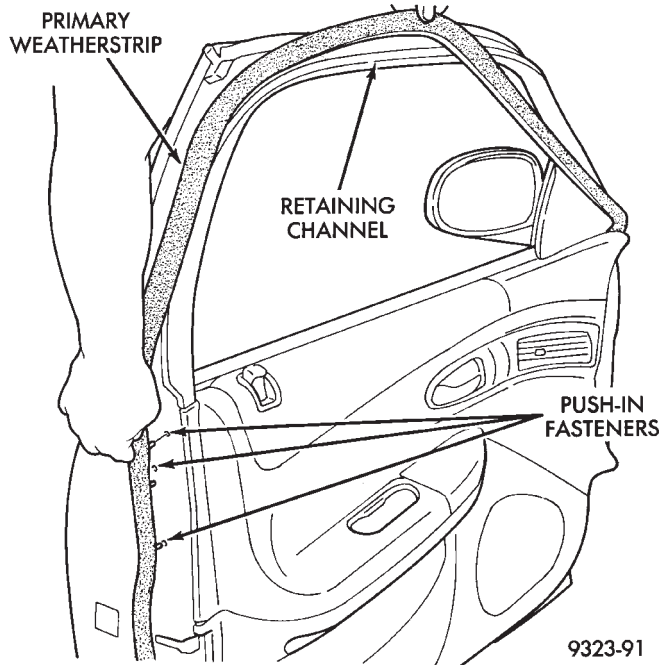

Fig. 27 Front Door Primary Weatherstrip
- (1) Open front door.
- (2) Pull primary weatherstrip from channel around upper window frame.
- (3) Using a fork-type prying tool, disengage push-in fasteners holding weatherstrip to lower door end frames and bottom panel (Fig. 27).
- (4) Separate primary weatherstrip from door.